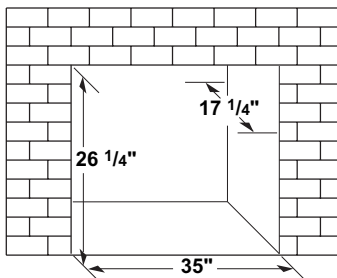

Figure 20 - Rough Opening for Installing in Masonry Fireplace
1. Use dimensions shown in Figure 20, page 16 for masonry fireplace opening.